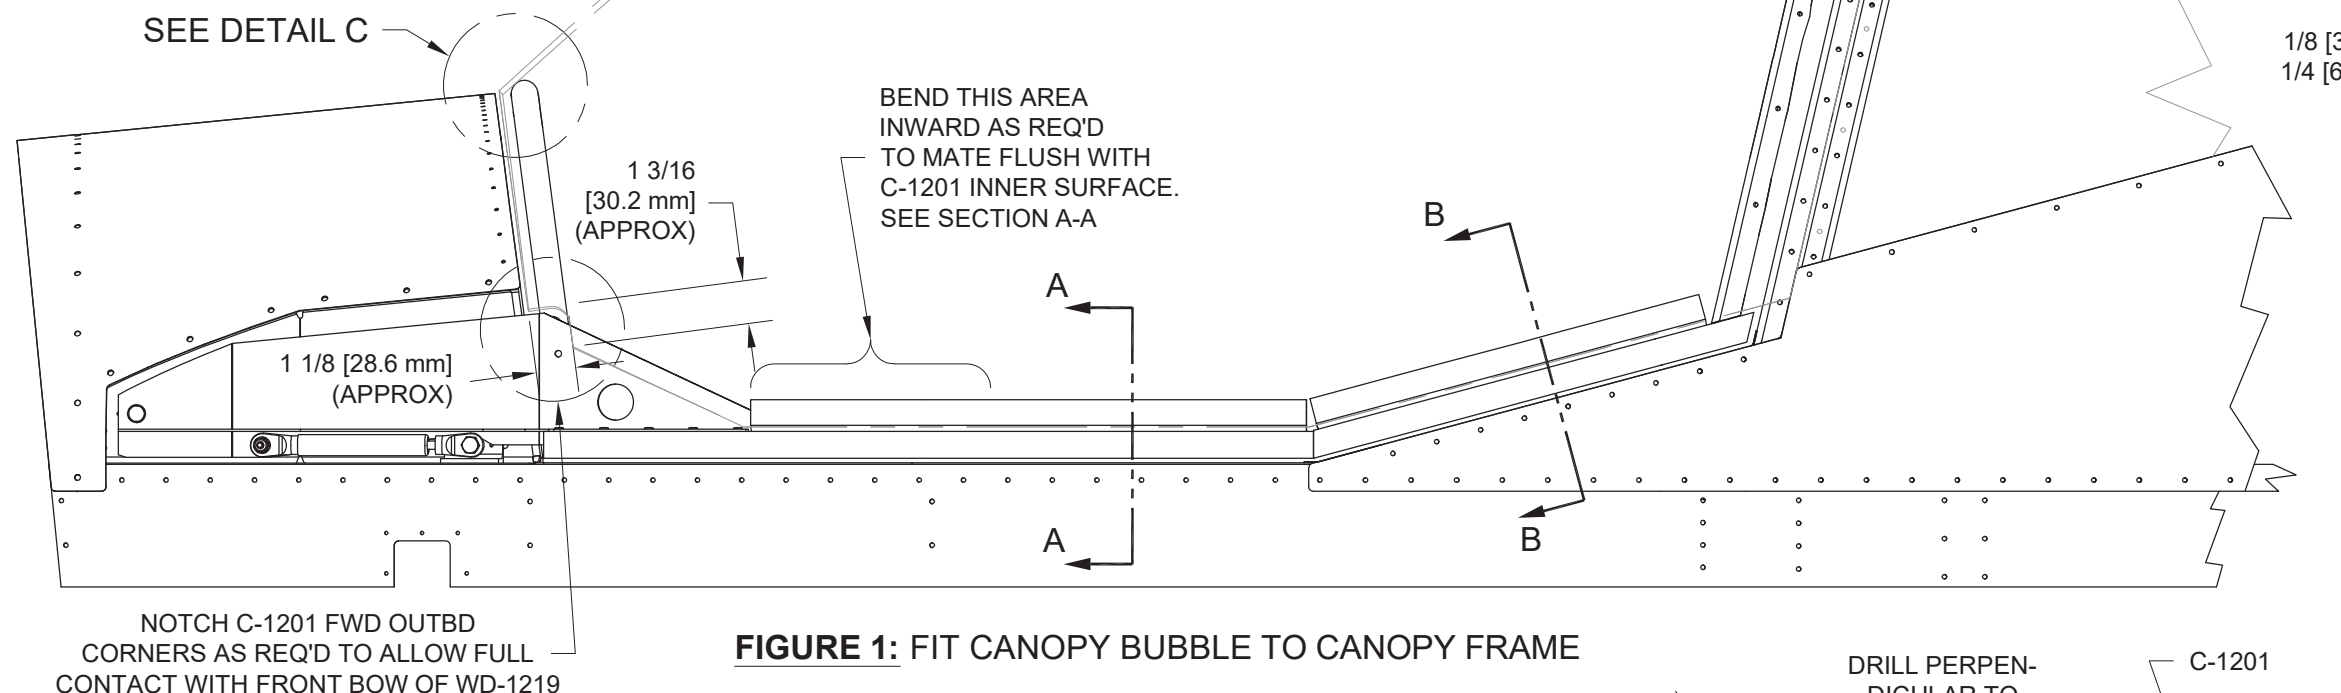

FIGURE 1: FIT CANOPY BUBBLE TO CANOPY FRAME
Step 2: Place the C-1201 Canopy onto the canopy frame inserting the canopy frame tube into the hole in the canopy and position it both fore/aft and side-to-side to achieve the dimensions shown in Figure 1, Section A-A, Section B-B, and Detail C.
Using a "Sharpie" pen, mark the canopy with the location of the center of the tube (if they are not concentric). Also mark on the canopy the amount of trim required at the forward outboard corners. See Figure 1.